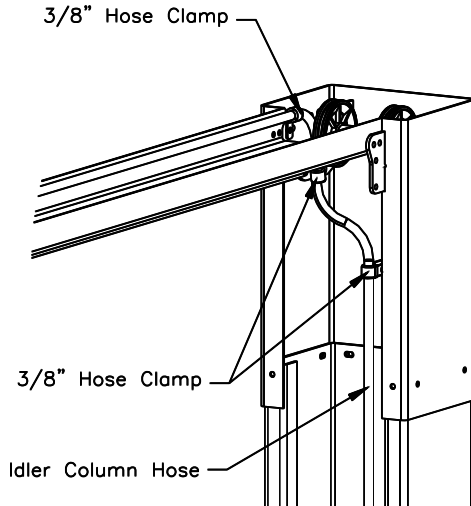

**Fig 7 – Power Unit Mounting**
- Mount Power Unit to power column as shown in **Fig 7**. The mounting hardware, (4) 5/16"-18 hex nuts, are pre-installed on power unit mounting bracket.